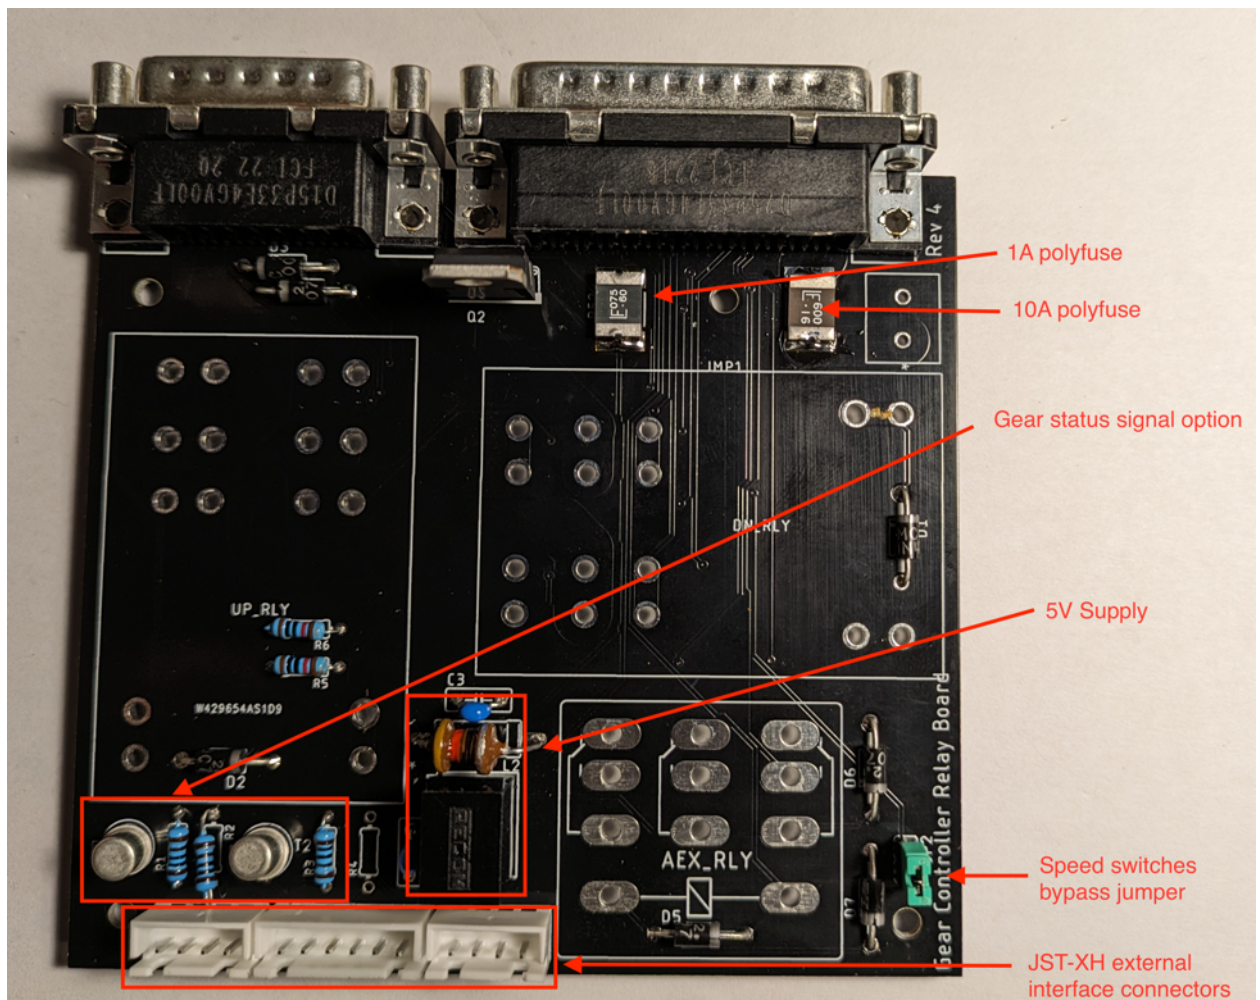

Figure 7 -Main Relay Board, all options installed
- 7) Inspect the DB15 and DB25 connectors for bent pins and straighten, if necessary. Then install, making sure ALL the pins extend the same distance through the underside of the board. Then solder in place.(Figure 7)
- 8) (Optional) Install the JST-XH headers. You could always just hardwire the external connections by soldering wires directly to the board, but I recommend using the JST connectors for ease of assembly. Make sure to install the headers so they line up with the component outline (the slots on the headers will point to the outside of the board)(Figure 7)
- 9) (Optional) If using the +5V supply, install capacitors C1 and C4 and inductor L2. These can be placed in any orientation. Install voltage regulator DC1, ensuring that it is in the correct orientation (matches the outline on the board) (Figure 7).
- 10) (Optional) If using the gear-up/gear-down signals, install T1, T2, R1, R3, R5 and R6. Note that use of the gear-up/gear-down signals also requires that the +5V supply option be installed as well. Pay attention to the orientation of the 2N2222 transistors – the tab should be pointing in the same direction as the outline on the board (Figure 7).
- 11) (Optional) If using standard AEX positive +5V triggering install the power transistor Q2 and resistor R2(Figure 7)